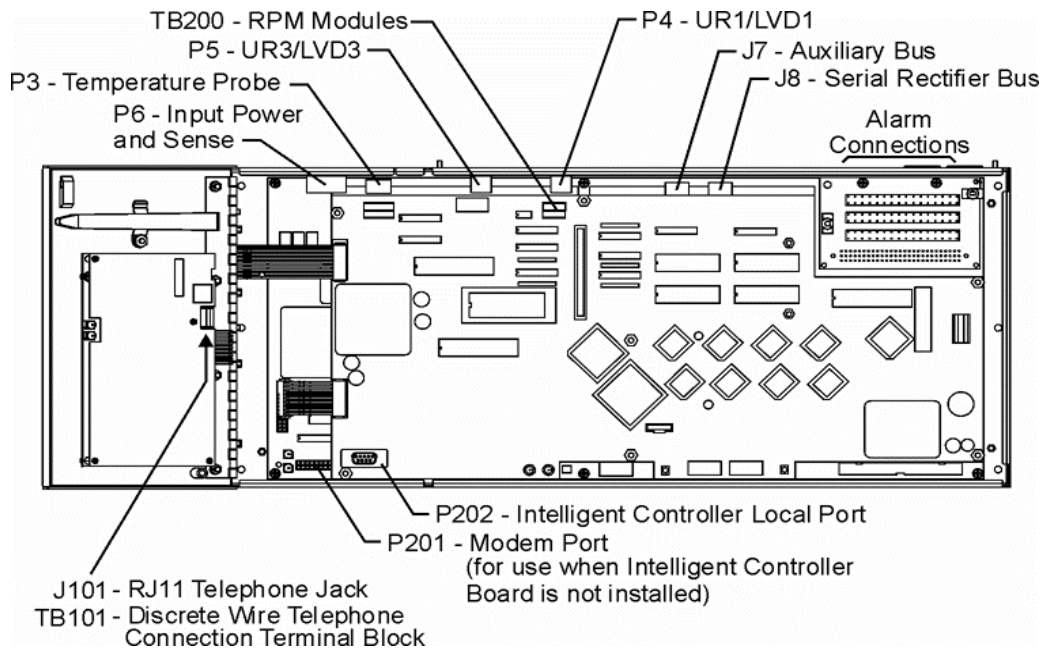

Figure 6-5: Millennium Controller Connections
b.	Next, locate P6 and the Input Power, Shunt and Regulation cable at the upper left hand corner of the basic (BSH) controller. (see Figure 6-5)
a.	On the Basic controller (BSH), locate J8.(see Figure 6-5)
a.	On the Basic controller (BSH), locate the BSL alarm block. It is located in the upper right hand corner of the BSH board. (see Figure 6-5)
a.	On the Basic controller (BSH), locate P3. It is located at the upper left hand corner of the BSH board, and is white connector. (see Figure 6-5)
4.	<p>a. On the Basic controller (BSH), locate P201. It is located on the lower left hand side of the BSH board.(see Figure 6-5)</p> <p>b. If NO cable terminates on P201, then proceed to the next item for removal. If a cable terminates on P201, Mark, Tag and Remove this cable.</p>